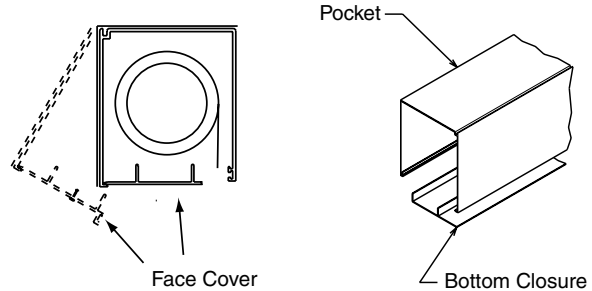

Figure 8
- ② Remove face cover from head box by pulling down and out on the bottom edge of cover near end caps. It will snap off (see Fig. 8). For pocket style headbox, remove screws at endcaps. The bottom of the cover box snaps down and off at endcaps, then slides out of slot in cover box (see Fig. 8).